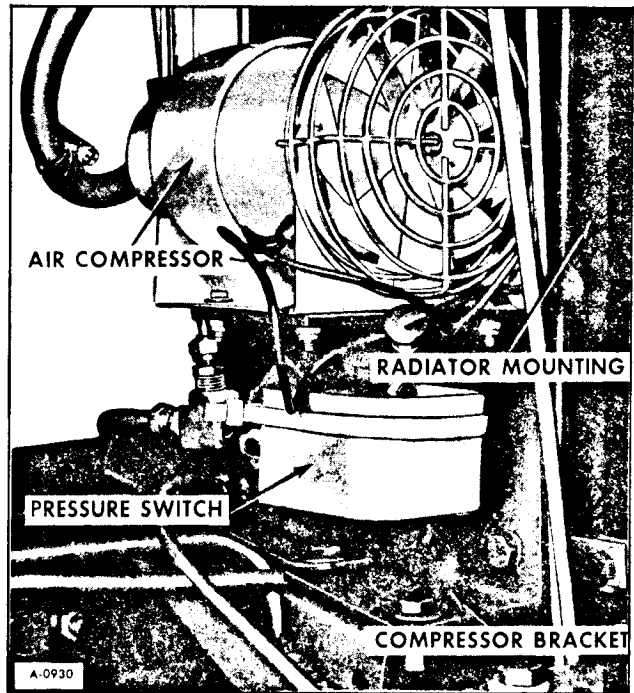

Figure 4-Air Compressor Installation
4. Referring to Figure 4, Remove three bolts on vertical bracket to radiator mounting. (There are weldnuts on inside of radiator mounting.)
8. Referring to figure 4, remove four nuts and bolts from compressor mounting bracket.